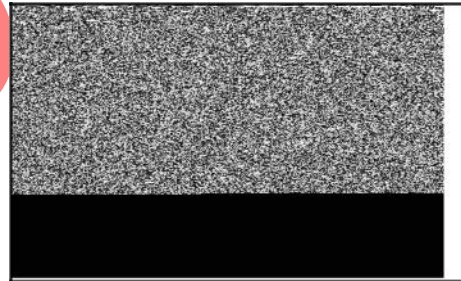

Figure 41
3. Using a feeler gauge (A, Figure 41), adjust rocker nut to obtain the clearance as listed in Section 12 - Engine Specifications.
4. Hold rocker nut and tighten the rocker ball setscrew (B) to the torque value shown in Section 12 - Engine Specifications.